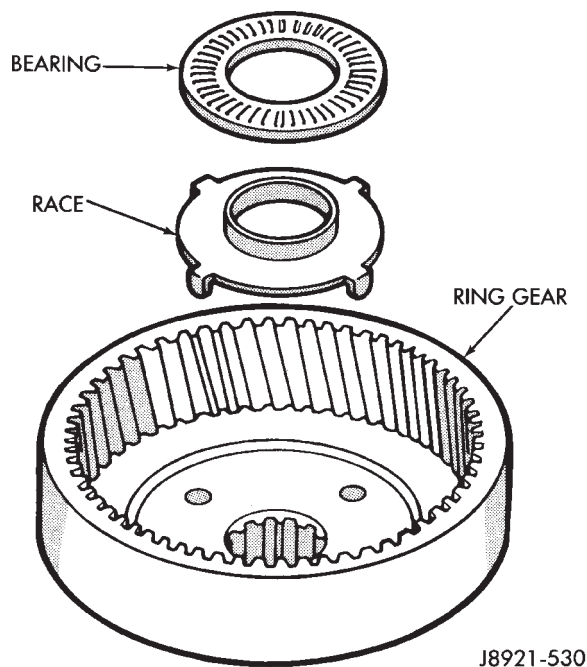

Fig. 22 Install Ring Gear Bearing And Race
- (5) Coat planetary race with petroleum jelly and install it on planetary gear. Outside diameter of race is 41.8 mm (1.646 in.) and inside diameter is 27.1 mm (1.067 in.).
- (6) Install hub in planetary ring gear and install snap ring.
- (7) Coat race and bearing with petroleum jelly and install in planetary ring gear (Fig. 22).
- (8) Verify bearing/race size. Outside diameter of race is 47.8 mm (1.882 in.) and inside diameter is 24.2 mm (0.953 in.). Outside diameter of bearing is 46.8 mm (1.843 in.) and inside diameter is 26 mm (1.024 in.).